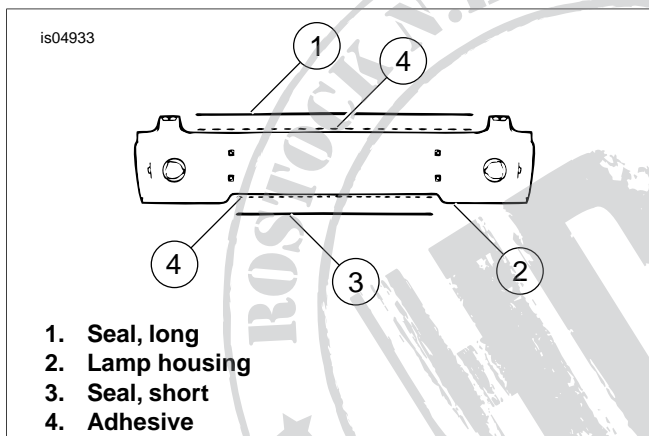

Figure 5. Mounting Sponge Rubber Seal
13. See Figure 5. Lay lamp housing down with back facing upward. Cut off lip of silicone applicator and thread onto it the top for the silicone tube furnished in kit. Lay a bead of silicone sealant into grooves at top and bottom of lamp housing at areas shown. Seat long piece of sponge rubber seal (1) in silicone at top groove in housing (2). Seat short piece of sponge rubber seal (3) in silicone at bottom groove in housing (2).